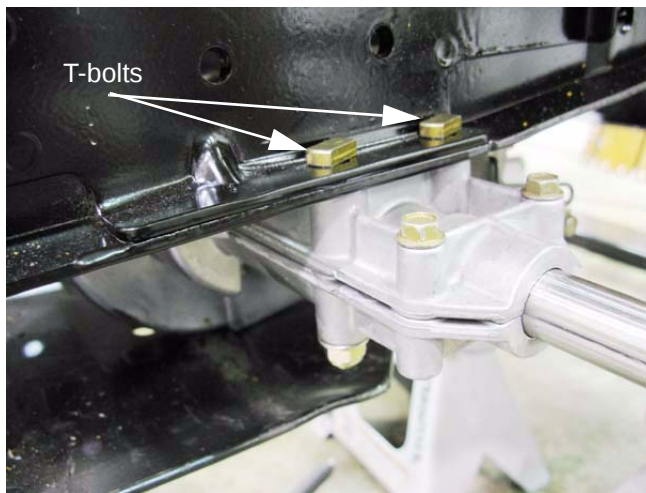

Figure 6.81
11. Take the nuts off of the T-bolts that hold the transaxle to the frame using a 1/2" wrench. See Figure 6.81.